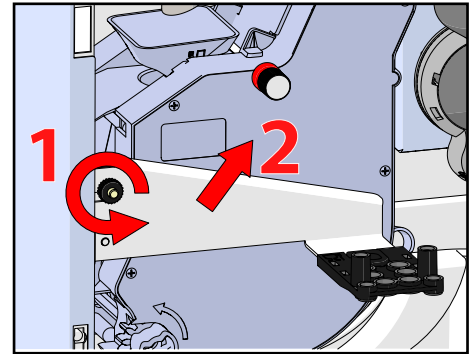

Figure 39.
5. Remove the spout arm from the cabinet. Press the latch and slide towards you (see Figure 39 + 40).